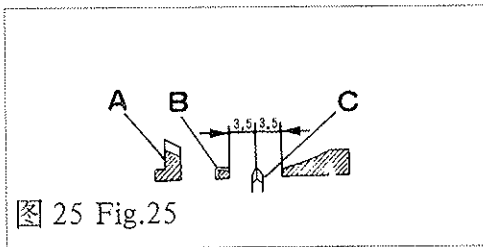
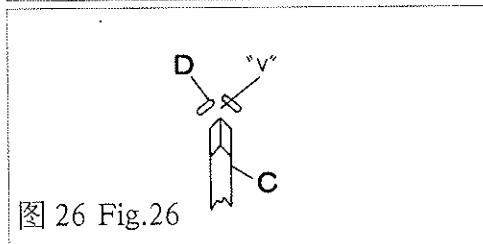

图 25 Fig.25
图 26 Fig.26
(1)左右位置 抬料轮“C”的中心位置应与针板“A”上的压料板槽中心位置重合(图25);压料板“D”的V形槽中心位置与抬料轮“C”中心位置重合(图26)。
①首先旋松紧定螺钉“C”，转动顶尖螺钉“B”，使抬料轮调节杆“A”无轴向窜动，但又能灵活摆动，然后将紧定螺钉“C”旋紧。
②旋松卡圈“D”的锁紧螺钉“E”及曲柄“F”的锁紧螺钉“G”后将抬料轴左右移动，使抬料轮处于标准位置(图 25)时将锁紧螺钉“E”及“G”旋紧，并应保持抬料轴无轴向窜动，但能灵活摆动，且与左右压脚板互不相碰。
③旋松压料板螺钉“A”，左右移动压料板“D”(图 12)使压料板V形槽中心与抬料轮中心重合(图 26)时，旋紧压料板螺钉。
(1) The left and right positon.
The centre of the ridge forming disc “C” coincides with the centre of material re-tainer groove on needle plate “A”(Fig.25); the centre of “V” groove of material retaiier “D” coincides with the centre of ridge forming disc “C”(Fig.26).
①Loosen set screw “C” and turn pointed screw “B” to secure that the ridge form-ing disc regulating lever “A” swings nimbly and is kept from having axial play, and tighten set screw “C”.
② After loosening lock screw “E” of collar “D” and lock screw “G” of crank “F”, move the ridge forming disc leftward or rightward to set the ridge froming disc in a position required (Fig.25), tighten lock screw “E” and “G”. Make sure that the ridge forming disc shaft shall be kept from having axial play and swing nimbly. The ridge forming disc shaft shall not come into contact with either the left presser foot or the right one.
③ Loosen material retainer screw “A”, move material retainer “D” (Fig.12) left-ward and rightward to make the centre of “V” groove on material retainer coincides with the centre of the ridge froming disc (Fig.26). Tighten material retainer screw.